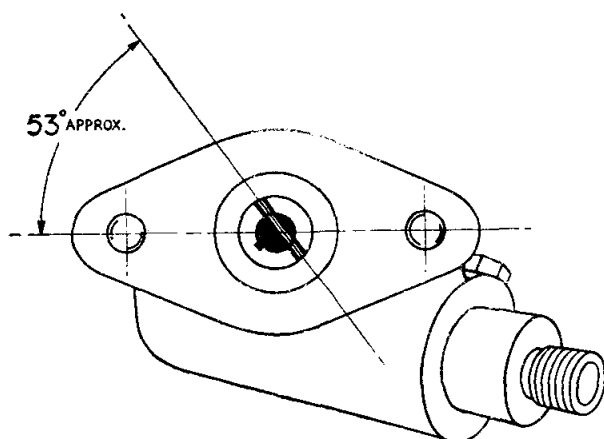

Fig. 16 Position of Slot in Distributor Boss when No. 1 cylinder is at T.D.C. on compression stroke.
When correctly engaged the slot in the distributor driving boss, with No. 1 cylinder at T.D.C. on the compression stroke, should assume a position approximately "five minutes to five" with the offset towards the rear of the engine (Fig. 16). In this position the slot will point directly towards the exhaust valve rod sealing tube for No. 1 cylinder, the distributor rotor will face No. 1 sparking plug, and the keyway in the helical gear will be aligned with the oil dipstick when fitted.
- (b) When refitting the oil pump and distributor driving helical gear, ensure that No. 1 piston is at T.D.C. on the compression stroke. In this position the correct engagement of the helical gear should allow the Woodruff key to be positioned towards the front of the engine, pointing approximately towards the dipstick (Fig. 16). It may be found that the oil pump, shaft will not engage with the pump for the tongue and slot of these components are out of line. The engine will need to be turned over slowly until the shaft engages with the pump. Continue to turn the engine until the offset slot in the distributor drive boss attains the position as illustrated in Fig. 16. Disengage the helical gear and remove it from the housing. Turn the engine over until No. 1 piston attains the T.D.C. position on the compression stroke and replace the